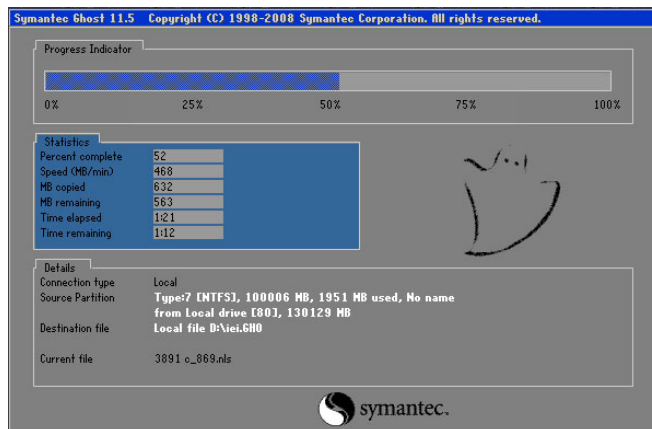

Figure B-19: Image Creation Complete
Step 10: The Symantec Ghost starts to create the factory default image (Figure B-19).